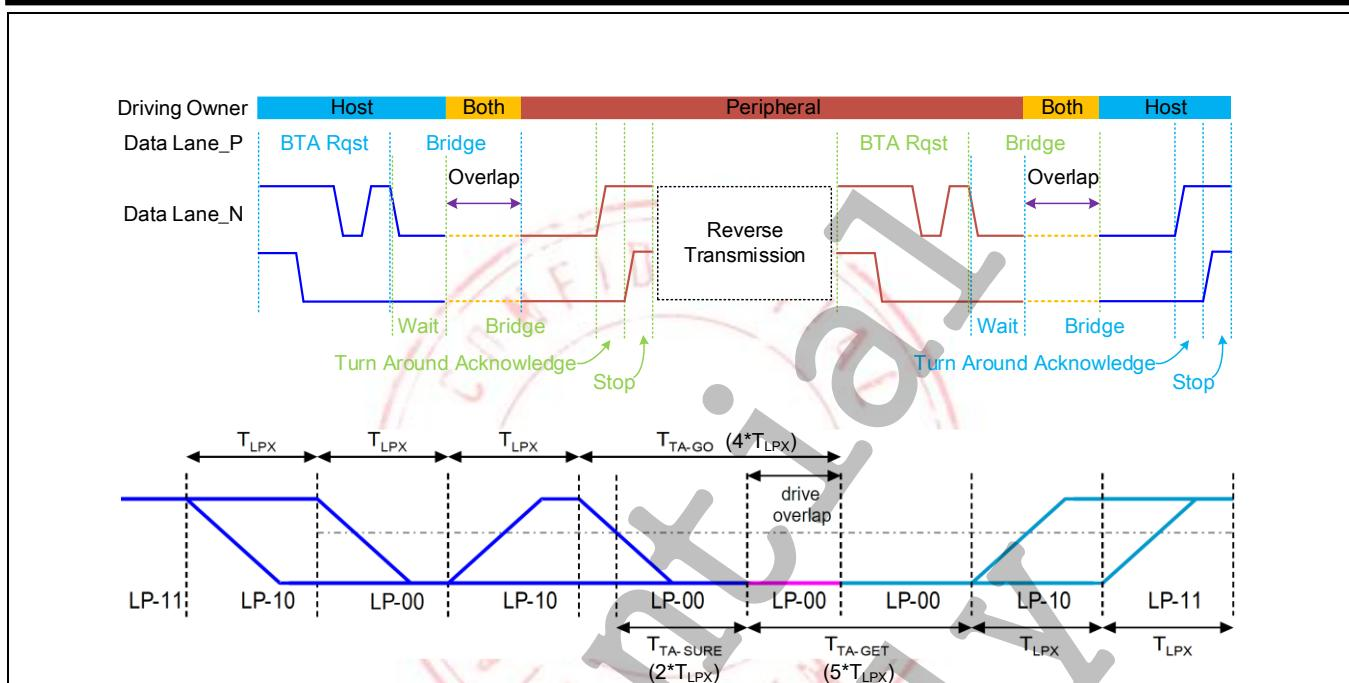

Figure 44 Bus Turn Around procedure
Figure 44 shows the structure of the Long packet. A Long packet shall consist of three elements: a 32-bit Packet Header (PH), an application-specific Data Payload with a variable number of bytes, and a 16-bit Packet Footer (PF). The Packet Header is further composed of three elements: an 8-bit Data Identifier, a 16-bit Word Count, and 8-bit ECC. The Packet Footer has one element, a 16-bit checksum. Long packets can be from 6 to 65,541 bytes in length. In the Long Packet, Packet Footer is added after Packet Data. Packet footer includes CRC calculated from Packet Data as checksum.